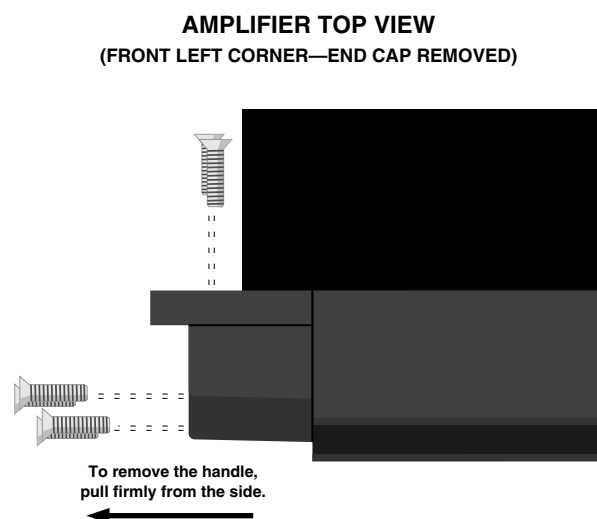

Fig. 4.3 Removing a Handle
3. Remove the six screws that hold each handle in place and remove each handle (see Figure 4.3).